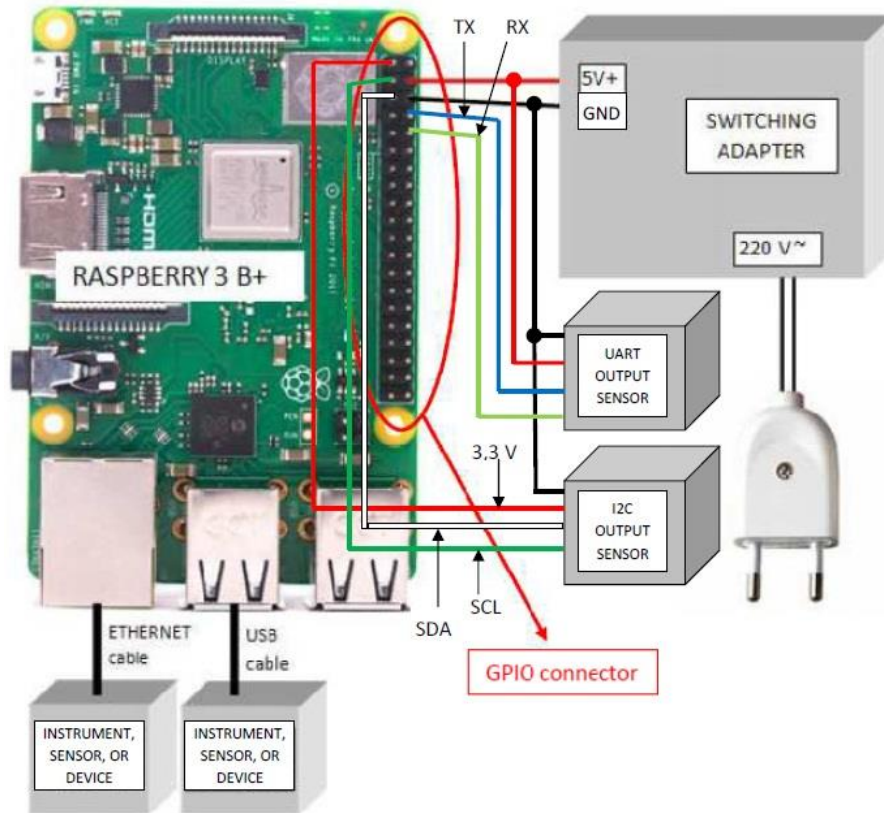

Figure 2: *SentinAir* hardware minimal configuration. Sensors/devices/instruments can be attached through the USB, Ethernet, Serial UART, or I2C port.
SentinAir is a modular and flexible system. The system hardware can be assembled in a minimal (see figure 2), or a typical configuration (see figure 3). The minimal hardware is composed of:
- a 5V power source capable of providing a direct current of 3A maximum. At the moment, the system has been tested with a switching ac/dc adapter (see figure 2).
(see figure 2), while I2C and serial devices must be connected to the Raspberry GPIO connector following the indications of figure 3.